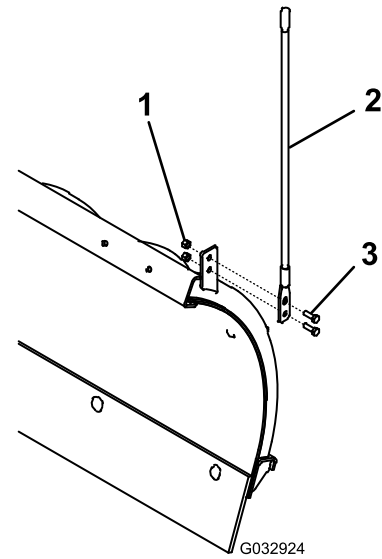

Figure 13
- Attach the blade guides to the plow blade using 4 bolts (5/16 x 1 inch) and 4 self-locking nuts (Figure 13).